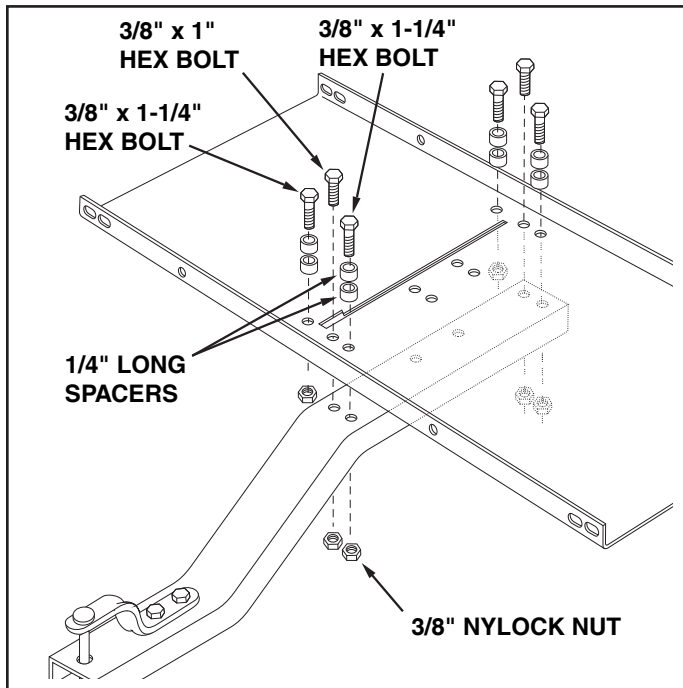

FIGURE 8
11. Assemble the tongue to the tray, placing the slot's locking notch to the front. Use two 3/8" x 1" hex bolts, two 3/8" x 1-1/4" hex bolts, four 1/4" long spacers, and four 3/8" nylock nuts as shown in figure 8. **Tighten.**
12. Assemble two 3/8" x 1-1/4" hex bolts, four 1/4" long spacers and two 3/8" nylock nuts to the holes on the right side of the slot in the tray. **Tighten.** See figure 8.